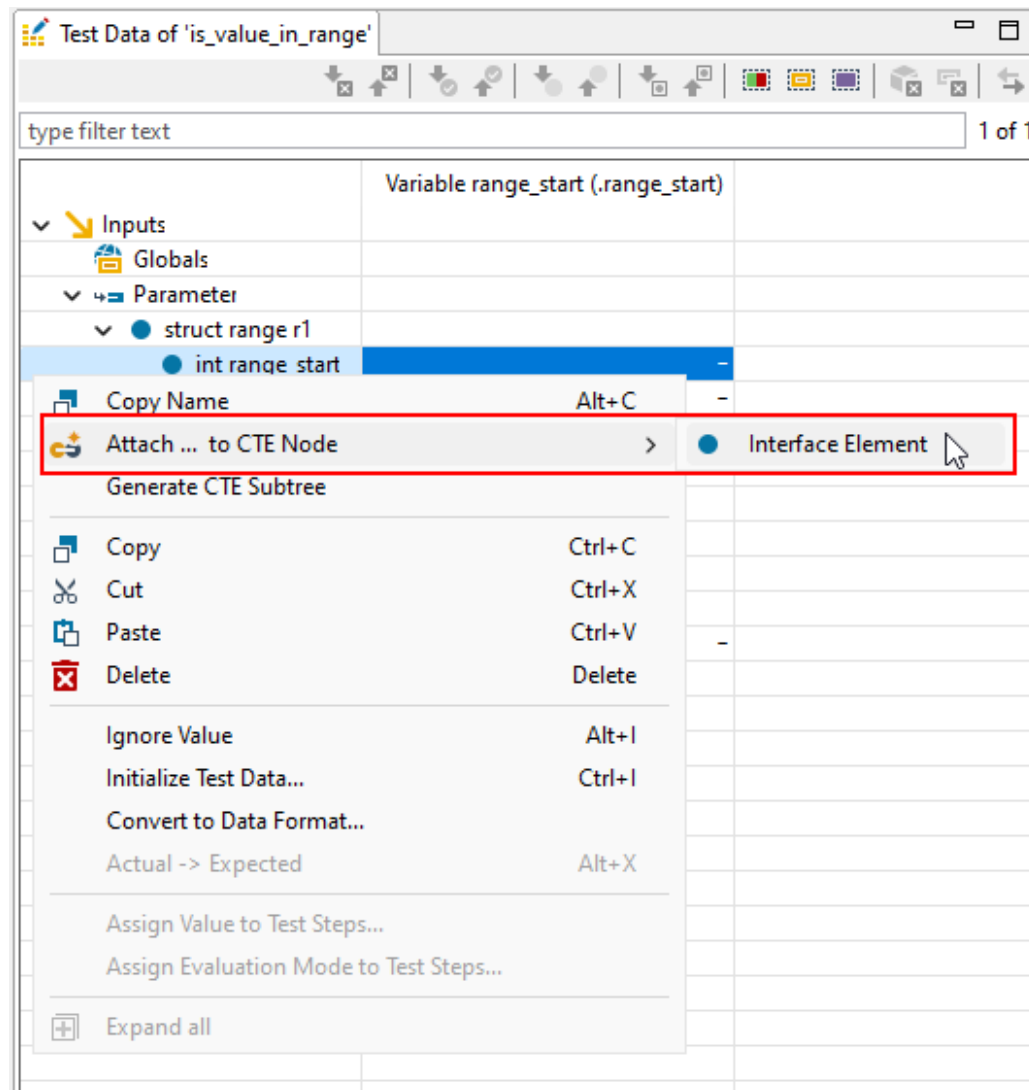

Figure 6.187: Attach the selected interface object
- In the context menu click “Attach ...to CTE Node” to associate the interface object with the selected node in the active CTE (see figure 6.187).